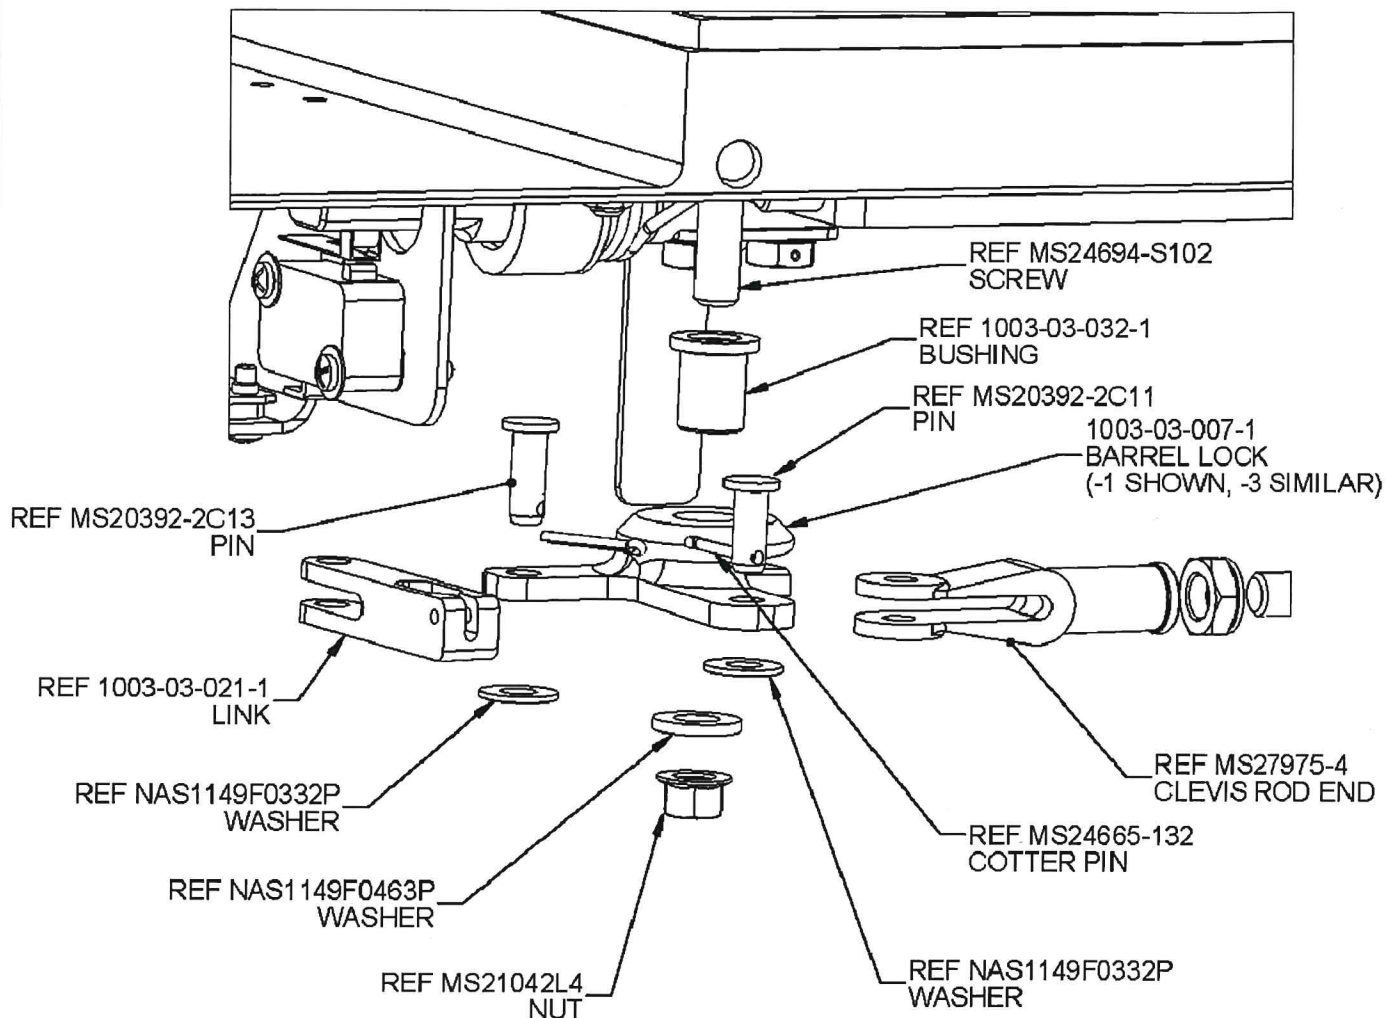

FIGURE 1 - 1003-03-007-1 BARREL LOCK REPLACEMENT
2. Remove the 1003-03-007-1 Barrel Lock by removing the hardware shown in Figure 1. Retain hardware.
3. Install the 1003-03-007-3 Barrel Lock in place of the 1003-03-007-1 Barrel Lock using previously retained hardware per Figure 1.